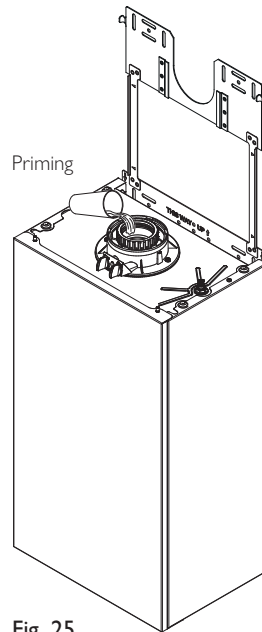

Fig. 25
2. Drill & plug the fixing points and cut the hole for the flue  $\text{\O}116$  mm. Secure the frame and hang the boiler on the lower plate (Fig. 25). Prime the boiler trap by pouring 300 ml of clean cold water into the central spigot. **Do not allow any water to spill into the air chamber.**